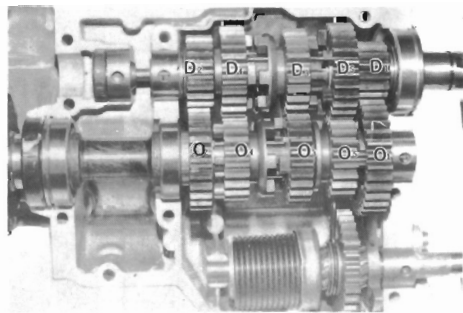

Fig. 3-148
- (1) Set the dial gauge as shown in Fig. 3-148